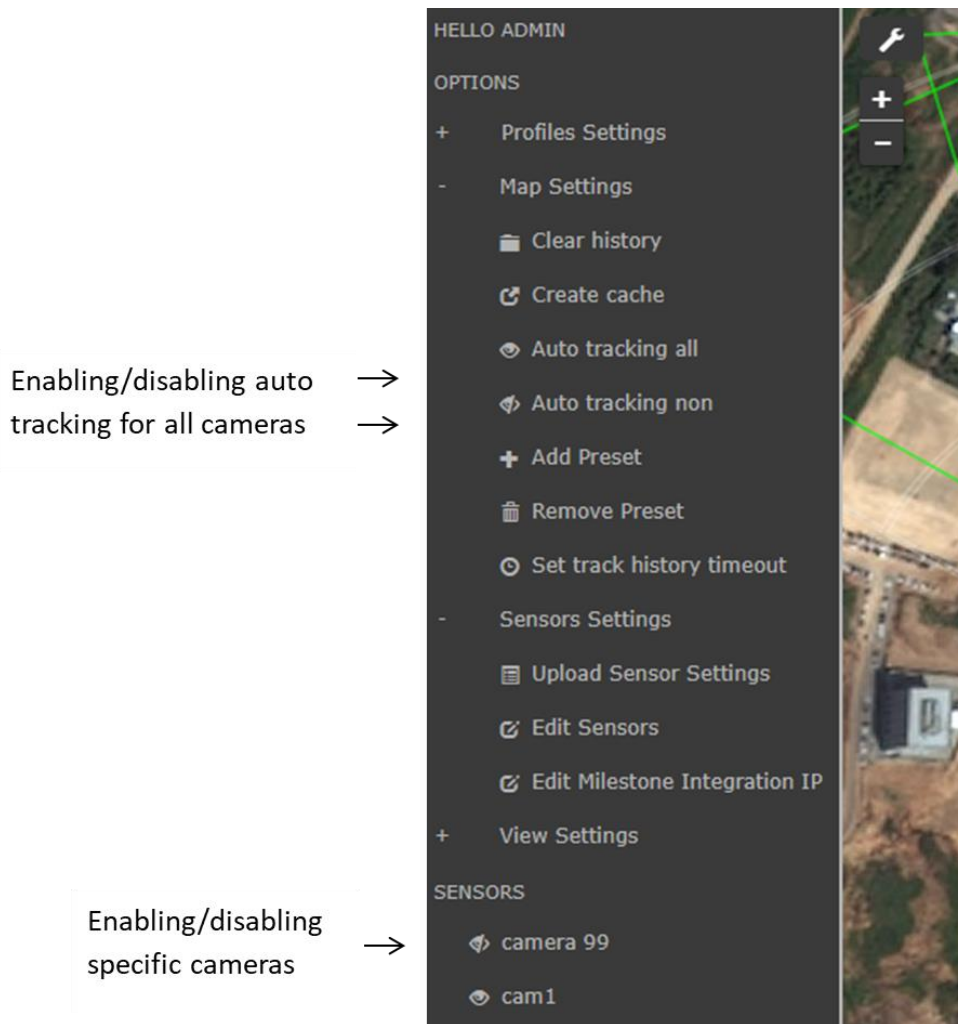

Figure 51: The Auto Tracking feature, enabled by default for all cameras
1. Locate the camera sensor under the sensor list (see Figure 51: The Auto